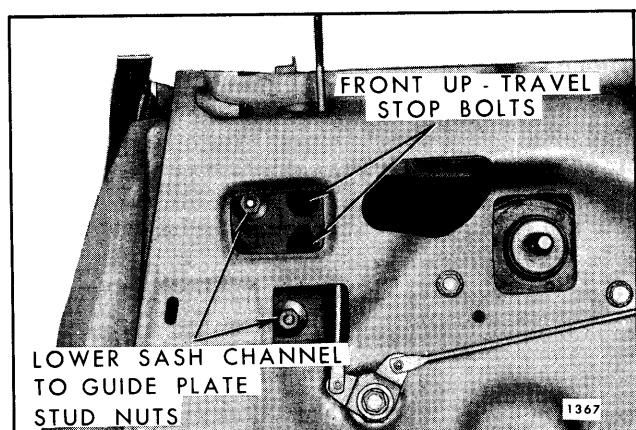

Fig. 6-97—Rear Door Window Removal -
4. While supporting glass by pressing it rearward into ventilator division channel, remove lower sash channel to guide plate attaching nuts (Fig. 6-97).